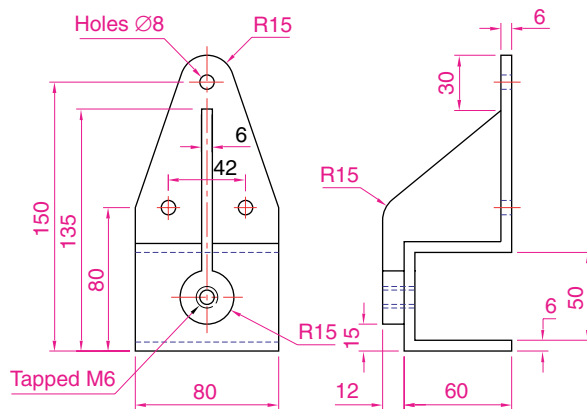

Fig. 13.48 Exercise 6
6. Construct a 3D solid model of a bracket, working to the information given in Fig. 13.48.